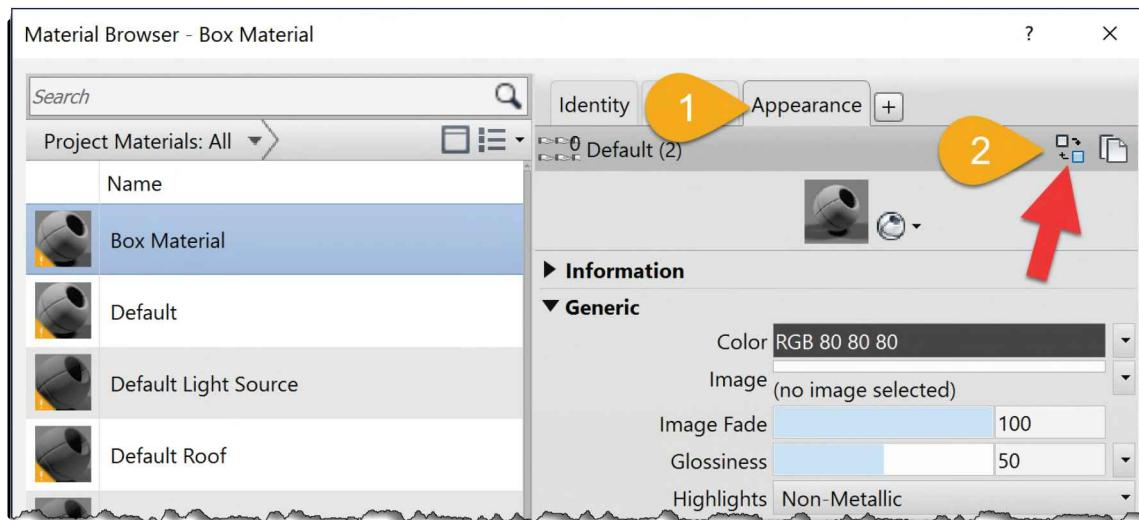

FIGURE 17-4.11 Selecting rendering appearance
22. Click to add an **Appearance** asset (Figure 17-4.11).